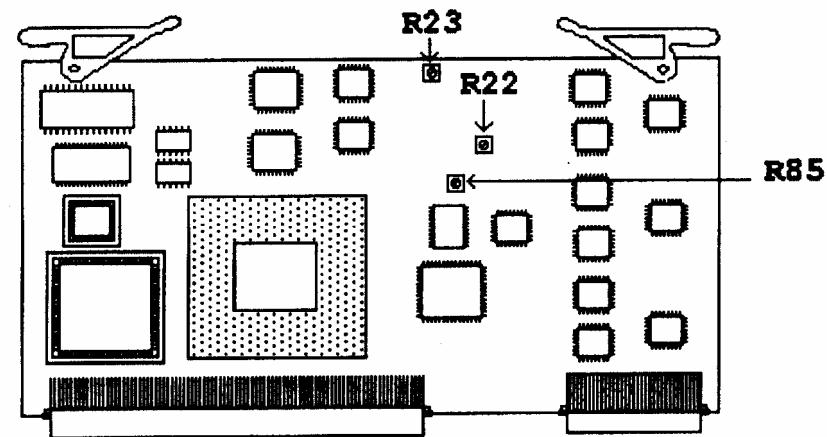

Figure 2. Function generator assembly A24.
(4) Connect multimeter **INPUT HI** and **LO** to **TI AUDIO OUT**. Set multimeter to measure volts dc.
(5) Press **FIELD SELECT ↓** key to select **LEVEL** and press **DATA ENTRY ENTER** key. Press **DATA ENTRY 3 . 1** and **ENTER** keys.
(6) Press **FIELD SELECT ↑** key to select **GEN 1** and press **DATA ENTRY ENTER** key to set **GEN 1 On**.
(7) If multimeter does not indicate  $0.000 \pm .01$  V dc adjust A24R23 (fig. 2) as close as possible.
- (8) Press **DATA ENTRY ENTER** key to set **GEN 1 Off**. Press **FIELD SELECT ↓** key to select **GEN 2** and press **DATA ENTRY ENTER** key to set **GEN 2 On**.
- (9) If multimeter does not indicate  $0.000 \pm .01$  V dc adjust A24R22 (fig. 2) as close as possible.
- (10) Press **DATA ENTRY ENTER** key to set **GEN 2 Off**. Press **FIELD SELECT ↑** key to select **GEN 1** and press **DATA ENTRY ENTER** key to set **GEN 1 On**.
- (11) Press **FIELD SELECT ↓** key to select **GEN 1 WAVE**, adjust **DATA SCROLL** knob to select **Sine**, and press **DATA ENTRY ENTER** key. Set multimeter to measure volts ac and record multimeter indication (approximately 3.1 V rms).
- (12) Press **FIELD SELECT ↑** key to select **GEN 1** and press **DATA ENTRY ENTER** key to set **GEN 1 Off**.
- (13) Press **FIELD SELECT ↓** key to select **GEN 2 WAVE**, adjust **DATA SCROLL** knob to select **Sine**, and press **DATA ENTRY ENTER** key. Press **FIELD SELECT ↑** key to select **GEN 2** and press **DATA ENTRY ENTER** key to set **GEN 2 On**.
- (14) Adjust A24R85 (fig. 2) for a multimeter indication recorded in (11) above  $\pm 5$  mV (R).
- (15) Disconnect multimeter and reconnect to TI and resistance standard set to  $150 \Omega$ .
- (16) Press **MODE MTRS** key, **AUX (F6)** key, **DATA ENTRY** key 1 (Calibrations), and press **FIELD SELECT ↓** key to select **15. Func Gen Level**. Press **DATA ENTRY** and **DATA ENTRY 1** keys (199.9 mV calibration).
- (17) Use **DATA SCROLL** controls to adjust multimeter indication for  $199.0 \pm 1$  mV ac and press **DATA ENTRY ENTER**.
- (18) Press **DATA ENTRY 2** key (2.5 V calibration), use **DATA SCROLL** controls to adjust multimeter indication for  $2.500 \pm .010$  V ac then press **DATA ENTRY ENTER** key.
- (19) Press **ESC (F6)** key, press **FIELD SELECT ↑** or **↓** key to highlight **8. VRMS Meter**, and press **DATA ENTRY ENTER** key.
(20) Press **DATA ENTRY ENTER** and use **DATA ENTRY** keys to enter multimeter indication to two decimal places, then press **DATA ENTRY ENTER** and **Ret (F5)** keys.
(21) Press **MODE AF GEN** (AF GEN Display) key; when prompted for backup data, press **SHIFT** and **Y** keys (Backup Cal Data ? y/n).
(22) Disconnect test equipment, press **TI POWER** key off, remove frequency generator assembly and extender card, and reinstall frequency generator assembly in proper slot. Press **TI POWER** key **ON**.